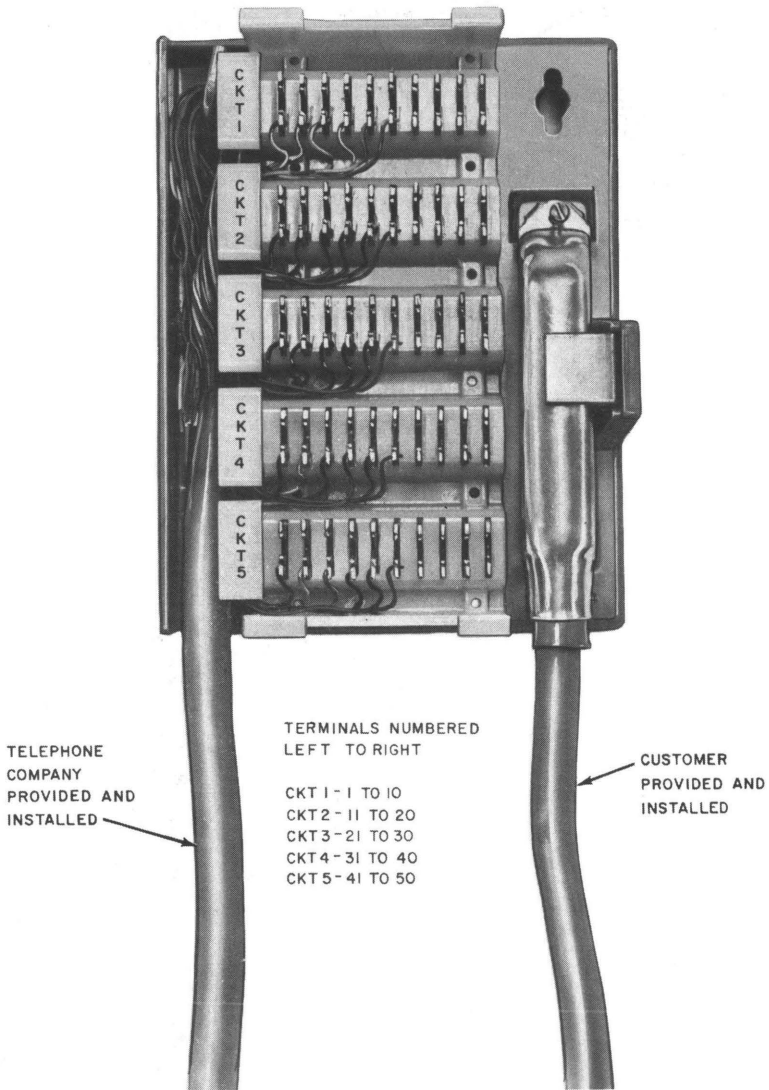

Fig. 4—66E3-25 Interface Connecting Block (Optional)
- Block, Connecting, 66E3-25 (optional, Fig. 4)
**3.11** As a customer option, the 66E3-25 interface connecting block may be used and located not further than 200 feet from the panel. When using the 66E3-25 optional interface connecting block, refer to Fig. 4 and Table F for terminal and pin numbers. The 66E3-25 block provides an Amphenol connector for up to five circuits. The customer must terminate the CPE to the connector